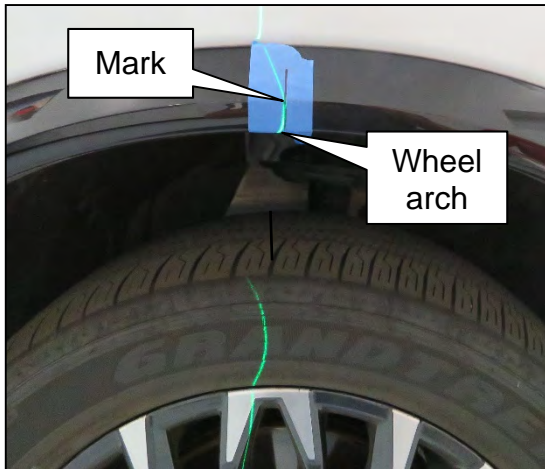
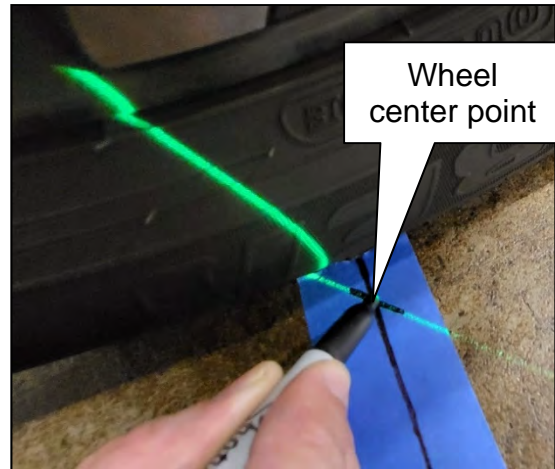

Figure 20
Figure 21
19. Line up the vertical laser line to the mark on the wheel arch (Figure 20), and then mark the floor with a cross-mark. This is the center point of the wheel and tire assembly (Figure 21).
- The vertical laser line must line up with the line on the wheel arch, not the wheel center cap (Figure 20).